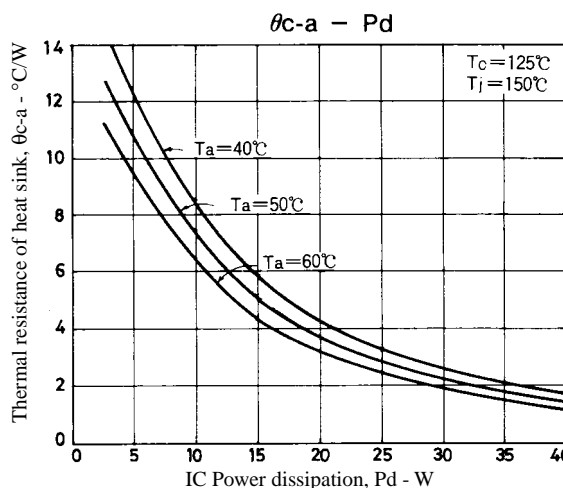

Figure 3. STK4026V θc-a - Pd
Figure 3 shows the relation between Pd and θc-a given from (1) and (3) with Ta as a parameter.
The thermal resistance of a heat sink is obtained from Figure 3.